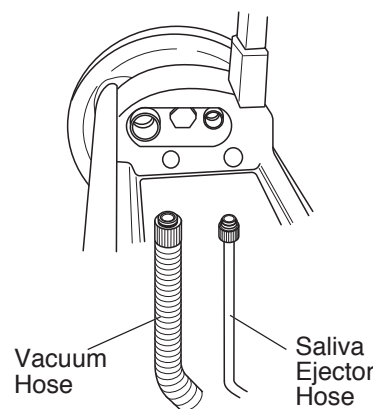

Fig.4-9 Vacuum Hose & Saliva Ejector Hose
2. Vacuum Hose / Saliva Ejector Hose (Fig.4-9)